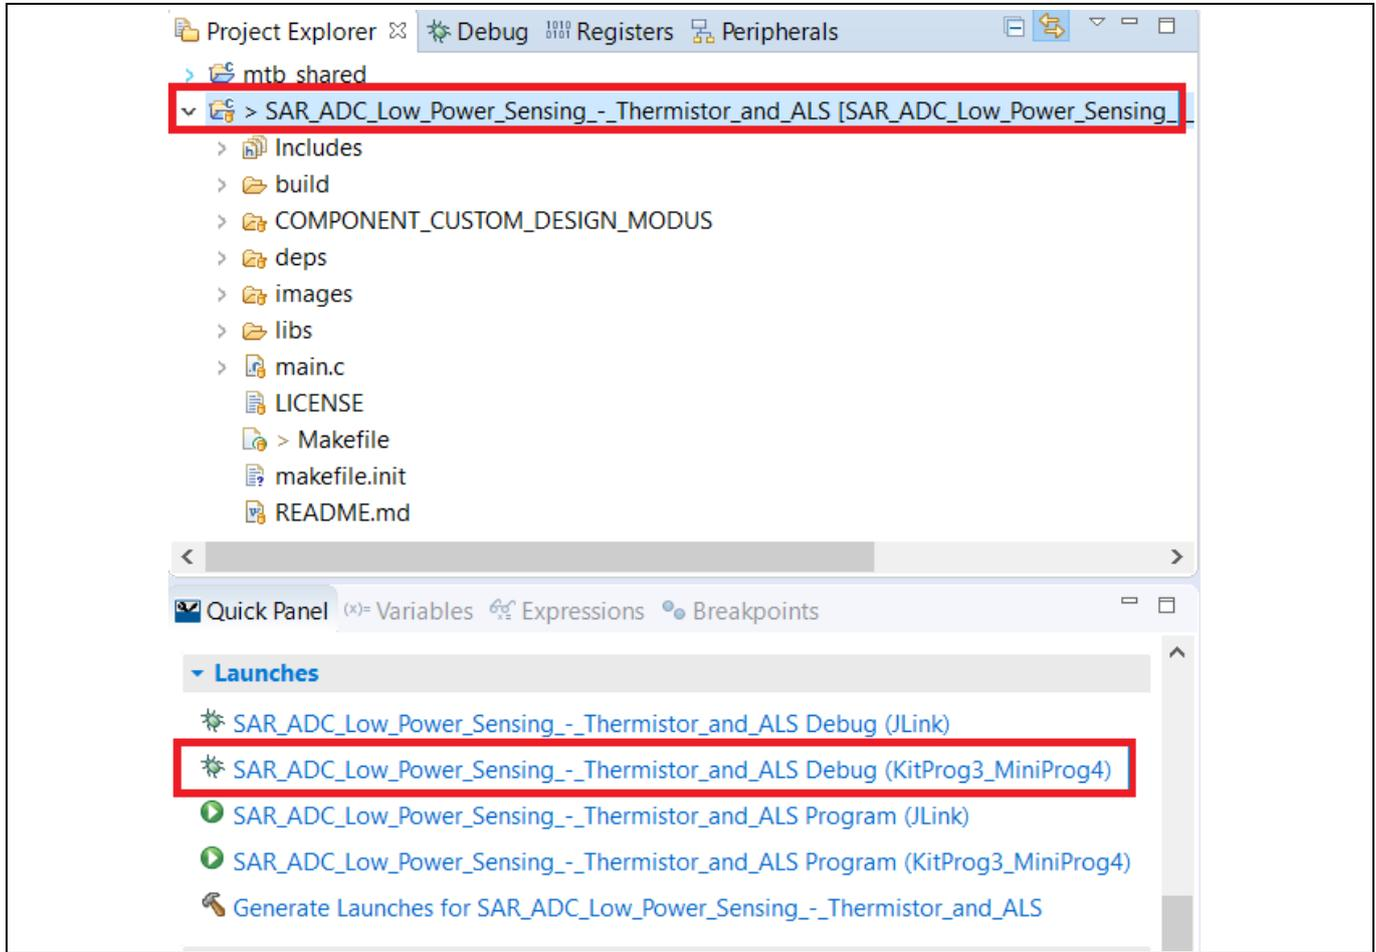

Figure 11 Debug the code example
- 4. ModusToolbox™ has an integrated debugger. To debug a PSoC™ 6 MCU application, in the Project Explorer, select <App_Name> project. In the Quick Panel, scroll to the **Launches** section and click the <App_Name> Debug (KitProg3_MiniProg4) configuration as shown in Figure 11. For a detailed explanation on how to debug using ModusToolbox™, see the ModusToolbox™ user guide.